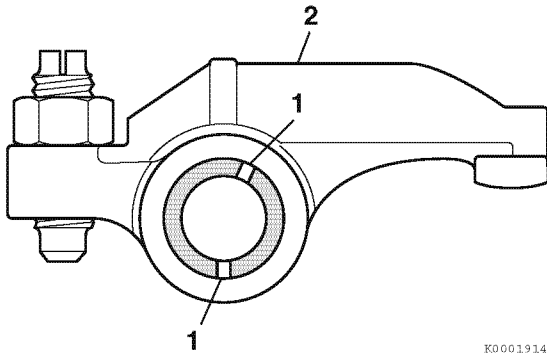

Figure 6-34
Note: Ensure the lubrication holes (**Figure 6-34, (1)**) in the rocker arm shaft are oriented correctly with respect to the rocker arms (**Figure 6-34, (2)**).